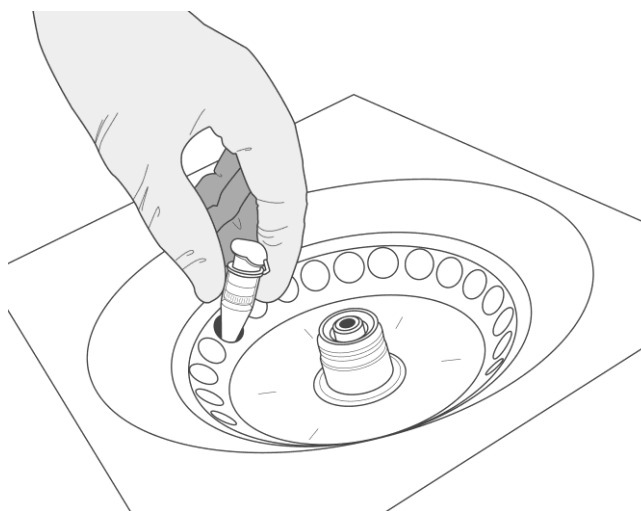

Figure 2
9. Place the DNApure Column into the centrifuge and align the cap strap toward the centre of the rotor as indicate in the Figure 2. Centrifuge for 20 minutes at  $500 \times g$ .